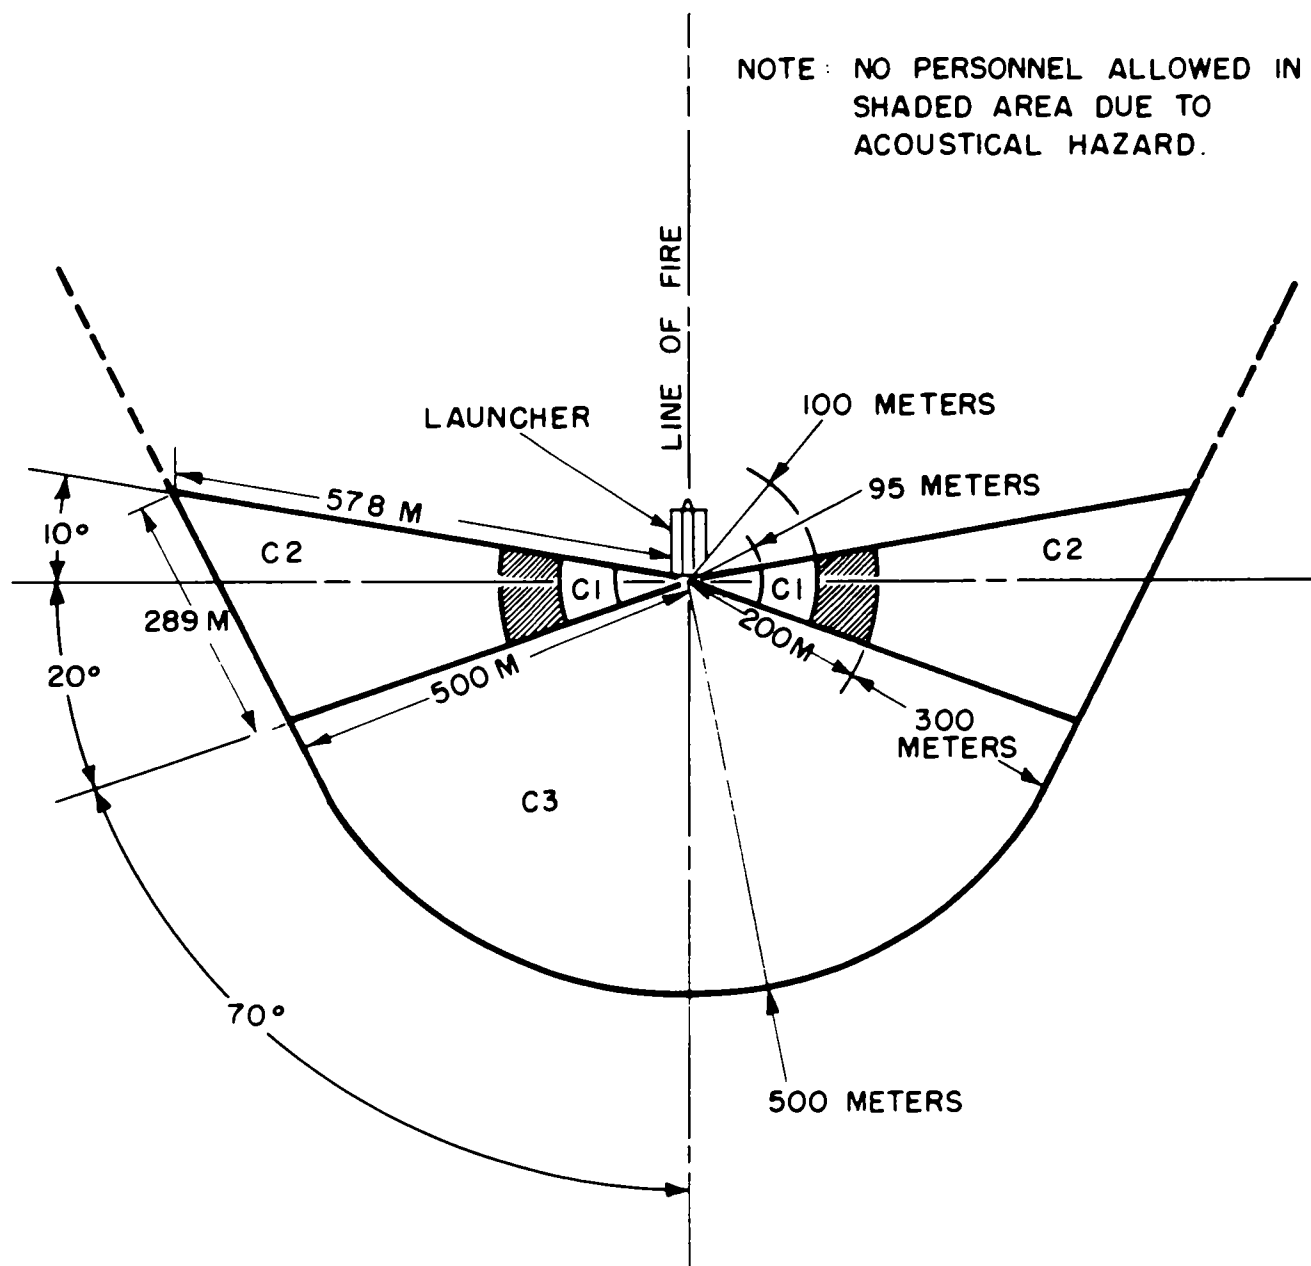

Figure 7-1. Unsafe areas and minimum safe distances.
of barricaded protection available, the direction of fire, and the circumstances surrounding the tactical situation. Certain safe distances should be strictly observed. These unsafe areas and minimum safe distances are explained below (fig. 7-1).
b. The area between C1 and C2 shown shaded in figure 7-1 is an acoustical hazard area and